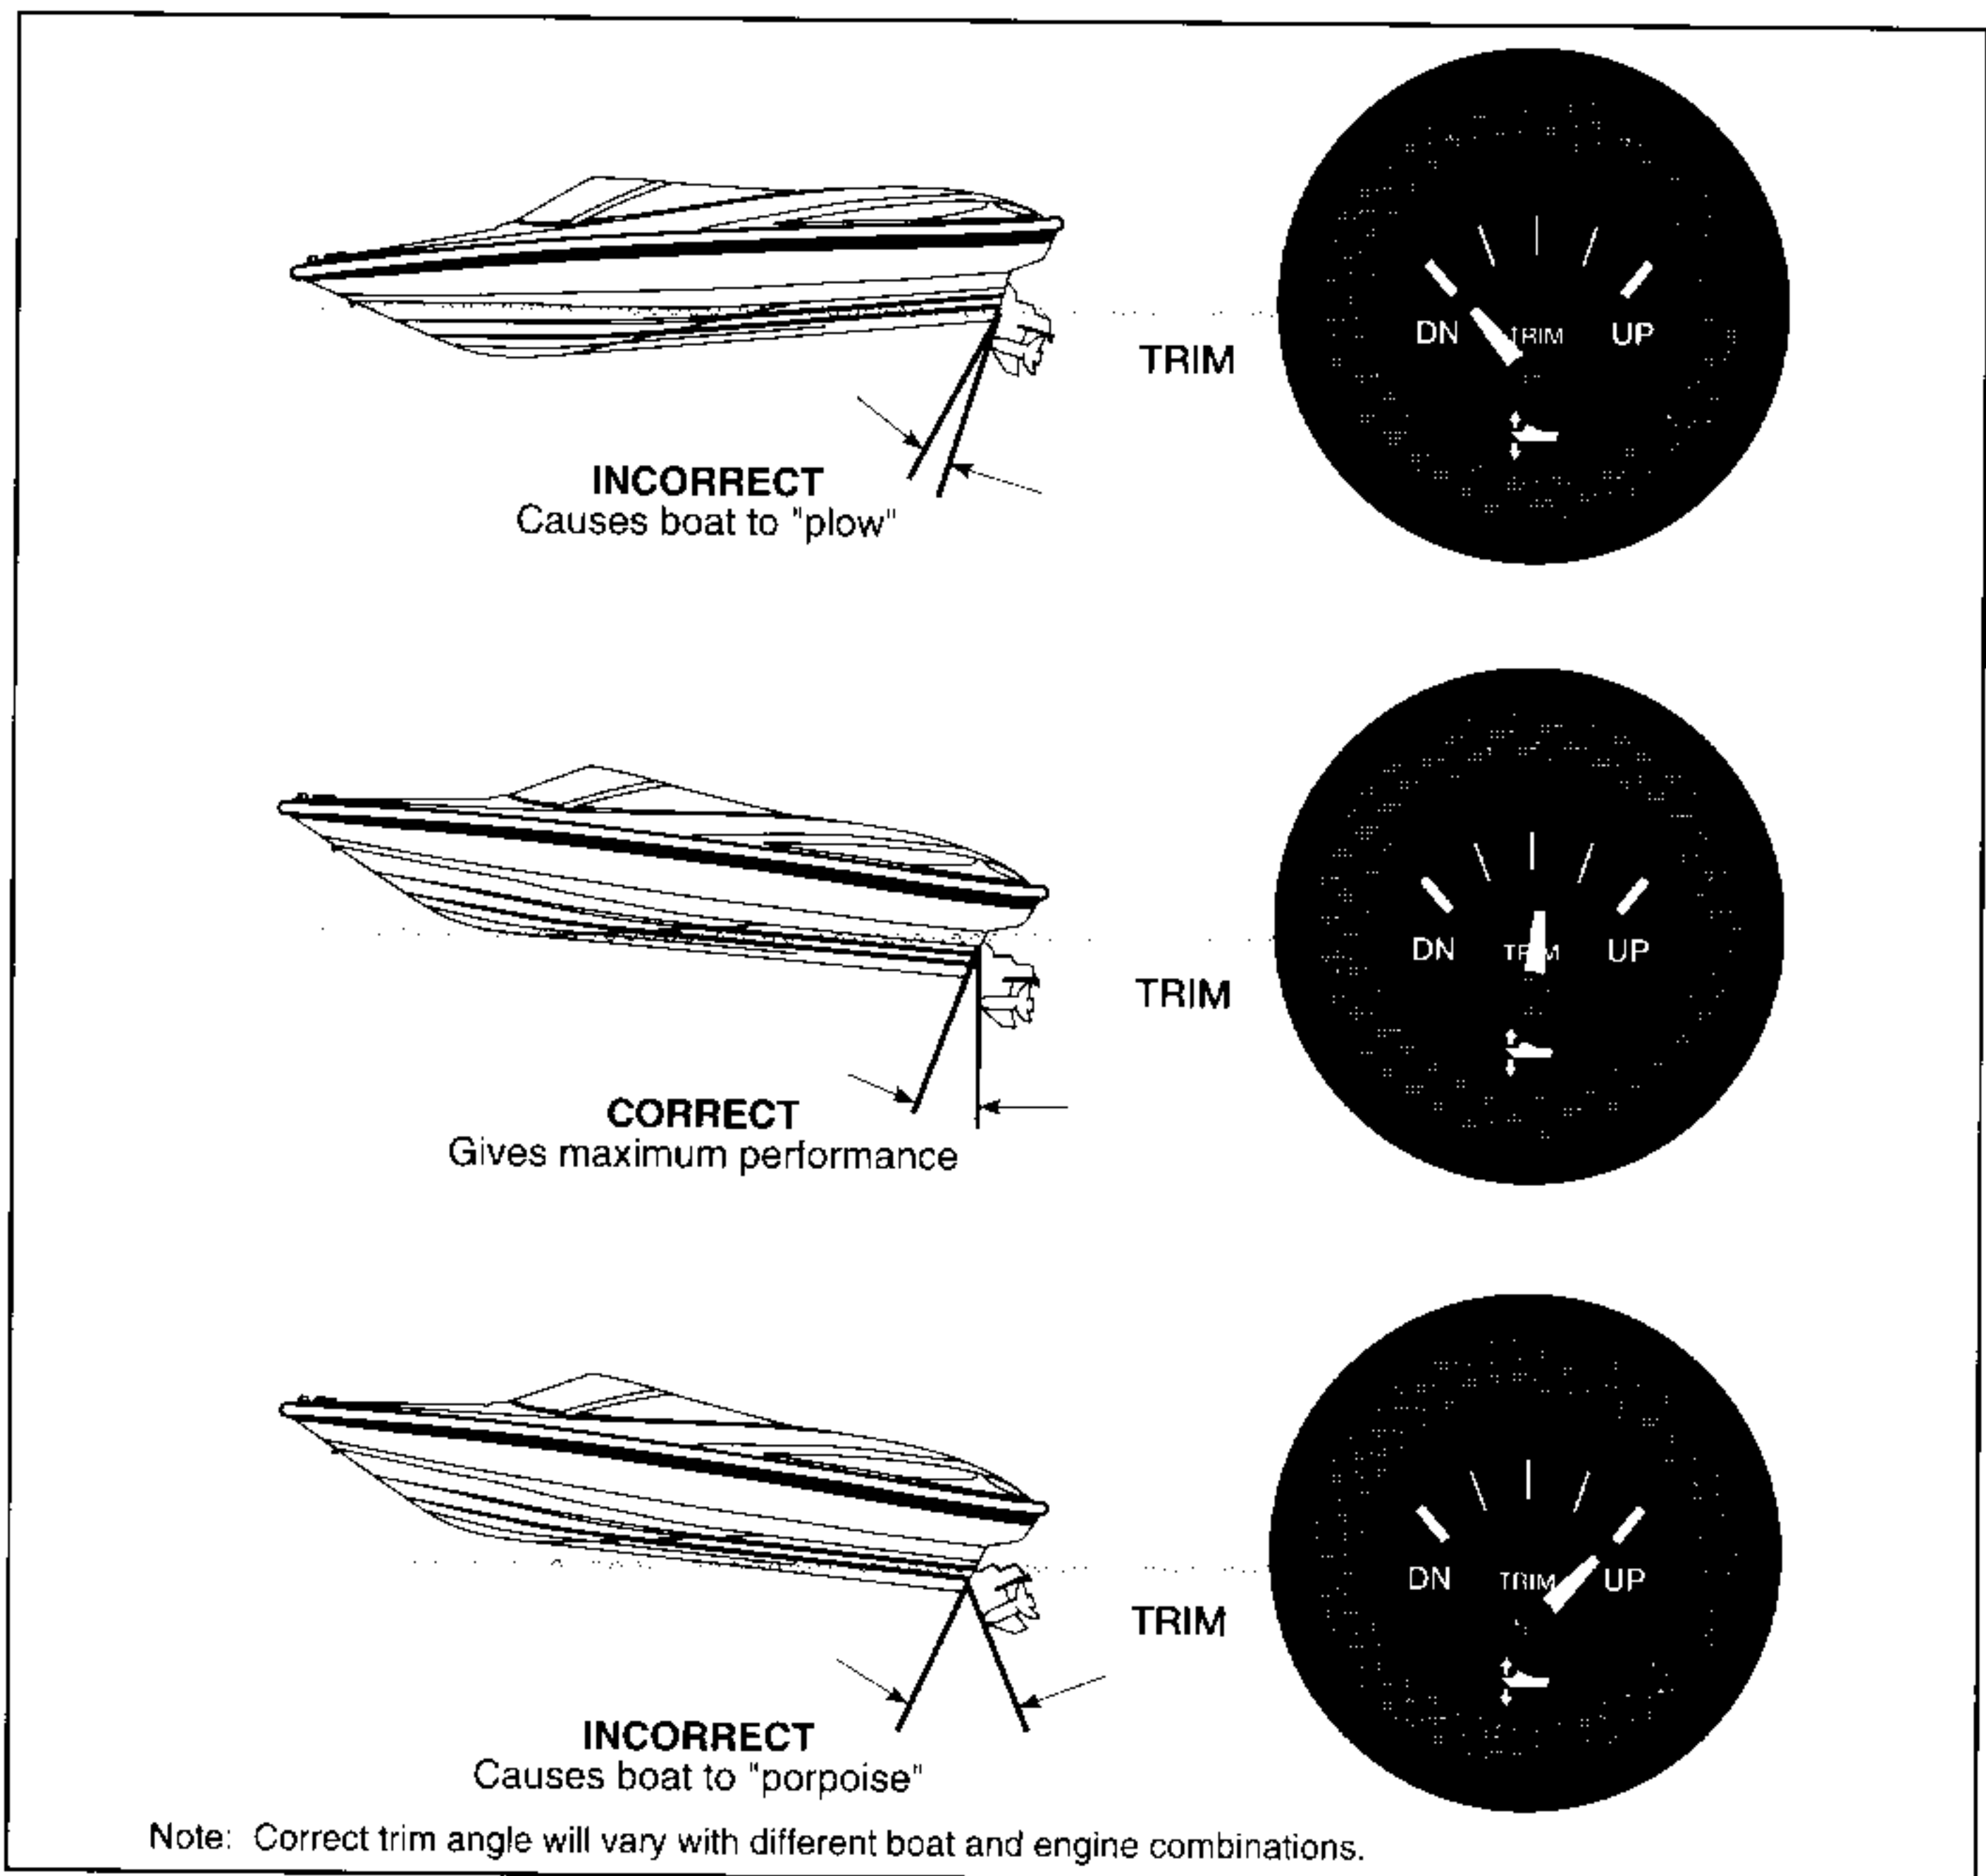

FIGURE 7.3 TRIMMING THE BOAT OUTDRIVE
3. In the case of low or heavy bow attitude, the boat tends to "plow" (**Figure 7.3**). The lower unit is trimmed too far under or forward. Trim the unit UP (out) to correct this situation.
4. If the bow is too high, the boat tends to "porpoise" (**Figure 7.3**). The drive unit is trimmed up or out too far. Trim DN (in) to correct.